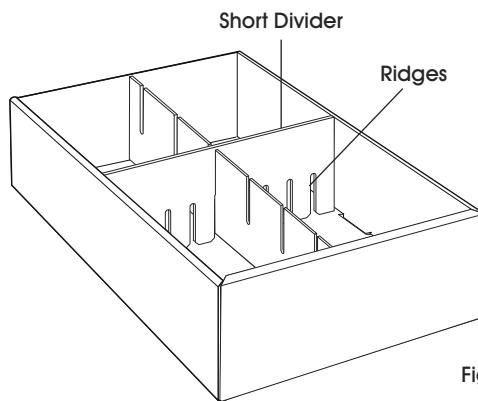

Figure 19
2. Insert short divider into the box as needed, ridges facing downward and align with the ridge from the long divider. (See Figure 19)